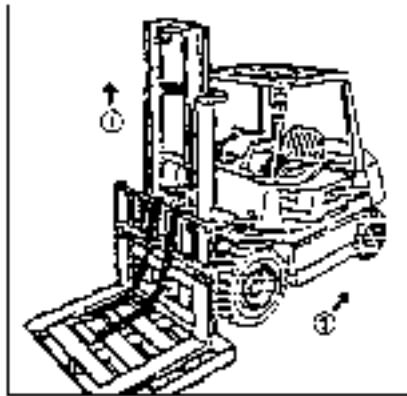

Fig. 8.5
- (1) Place a tray on the fork and park machine on the level ground.
- (2) Lower the fork and the pallet on the ground.
- (3) Take off the end connector on the upper part of the chain. Take down the chain from the chain wheel.
- (4) Lift the inner mast (see the ① in figure 8.5)